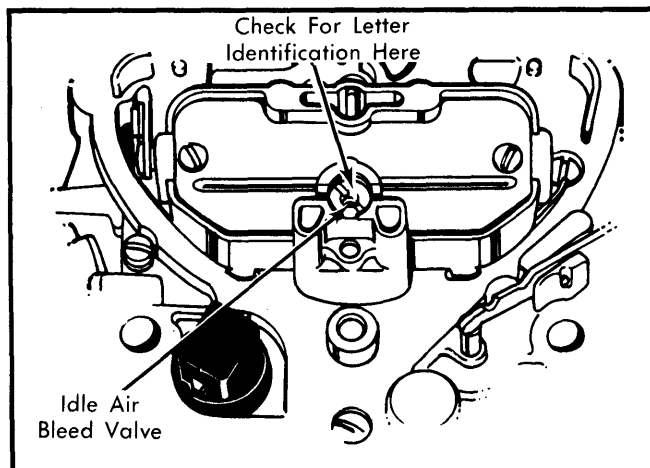

Fig. 11 Location of Idle Air Bleed Valve and Identification Letter
8) After removing cover, check for letter identification on top of idle air bleed valve. See Fig. 11. After identifying valve, use correct procedure as follows to remove valve: